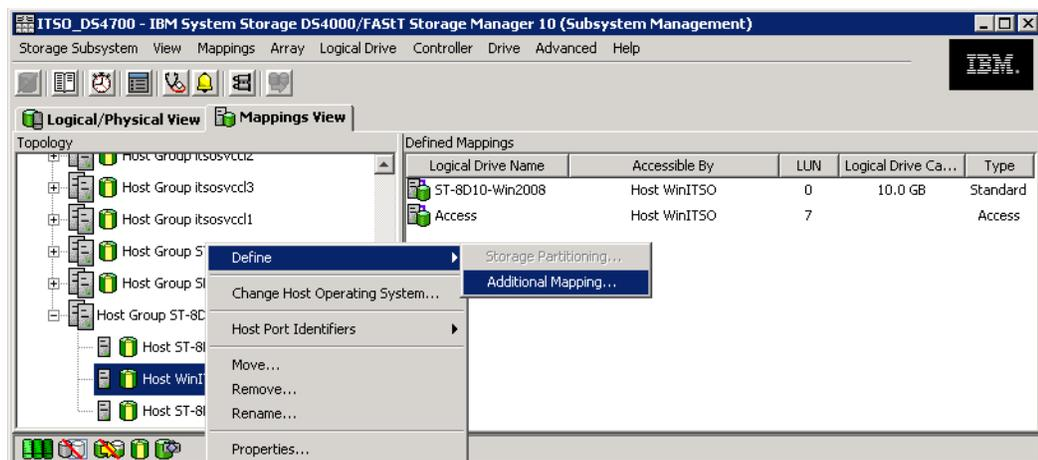
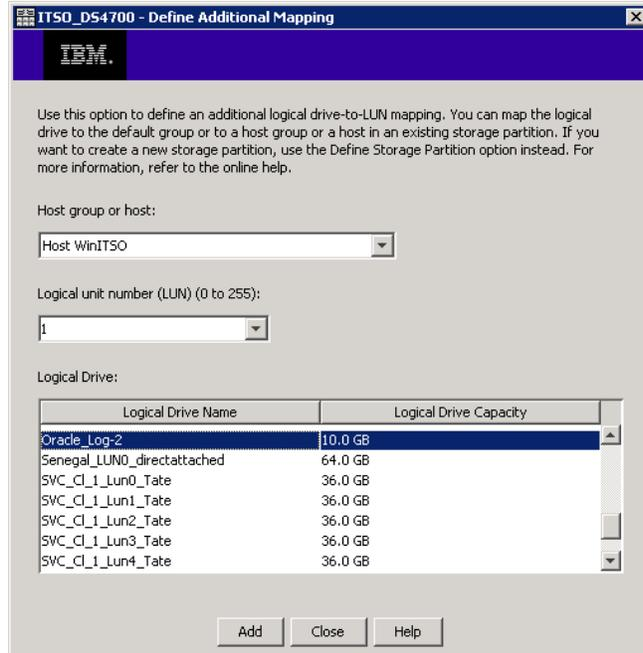

Figure 7-22 Define additional mapping from Subsystem Management
Figure 7-23 Define Additional Mapping
3. Right-click and select **Define Additional Mapping**, as shown in Figure 7-22.
4. The Define Additional Mapping window (Figure 7-23) opens. Follow these steps:
In the examples shown in Figure 7-22 on page 419 and Figure 7-23, the FlashCopy logical disk Oracle_Log-2 is made available to the Host WinITSO host. This enables the Host WinITSO to access and mount the disk as part of its own file system.